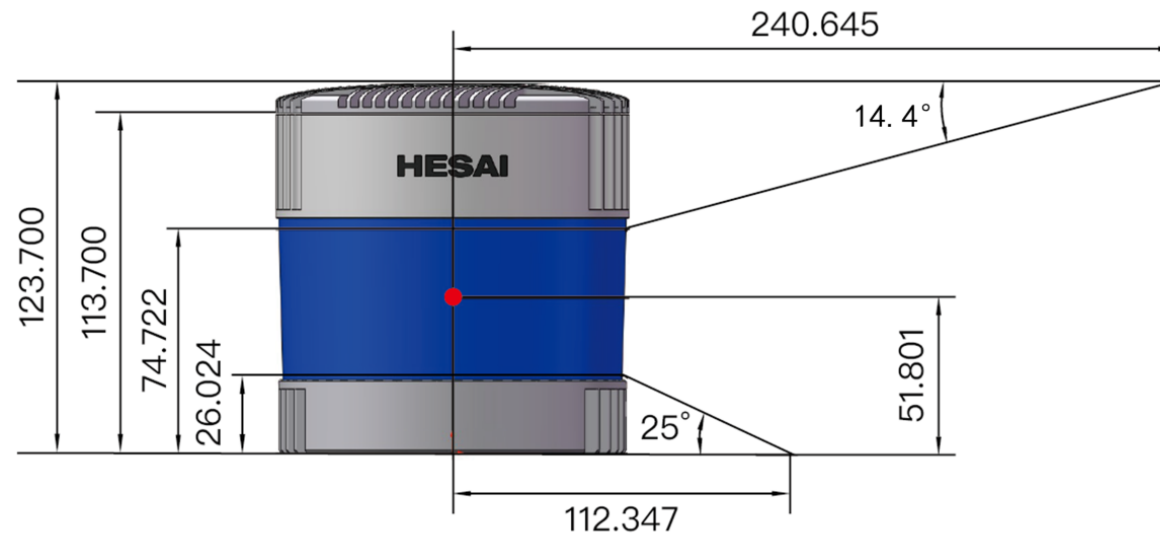

Figure 5. Laser firing position (unit: mm)
- The origin's exact position is shown as a red dot in Figure 5. Laser firing position \(unit: mm\). All measurements are relative to the origin.